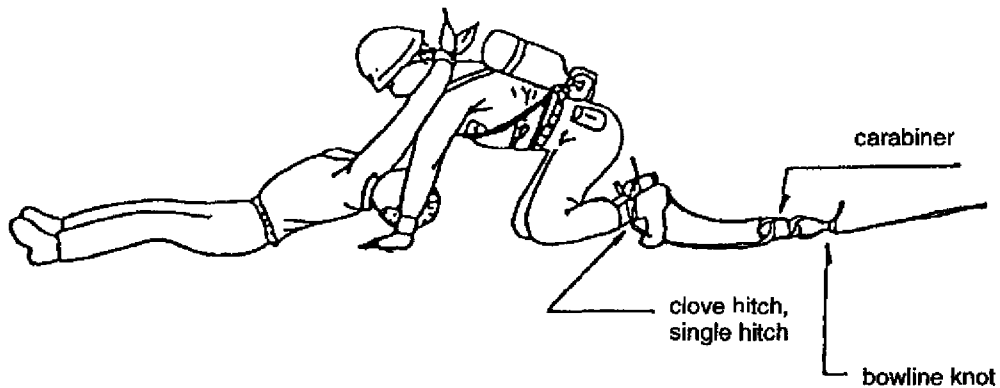

Fig. 7-36
(5) Rescue
- a. Tie the wrists of the victim together with the light towel or triangular bandage; drape the victim's wrists over the back of your neck, and crawl out backwards to safety, carrying the victim. (Fig. 7-36)